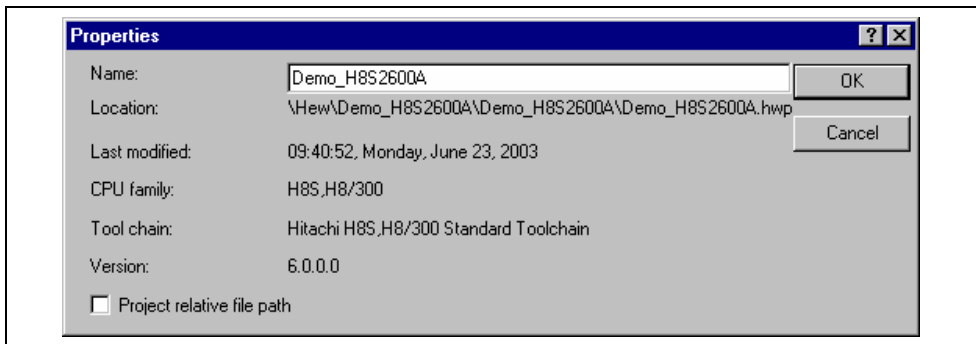

Figure 2.25: Properties Dialog
3. Click the "Project relative file path" checkbox to switch on or off the relative file path feature. (figure 2.25)